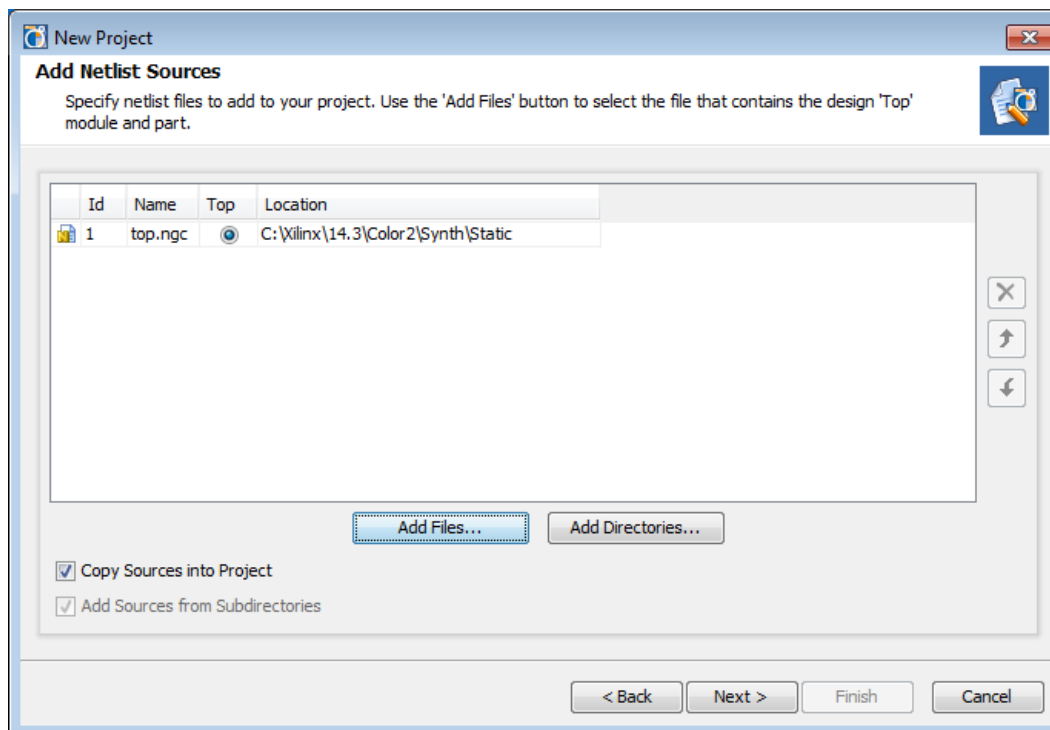

Figure 4-2: Add Netlists for Static Logic Only
2. Add all netlist sources associated with the static logic. Individual files or entire directories can be added, but all sources should only contain static logic. Sources for the reconfigurable modules will be added later. In this example, all the static logic is included in `top.ngc`, and this is identified as the top level source. Figure 4-2 shows the **New Project > Add Netlist Sources** dialog box.